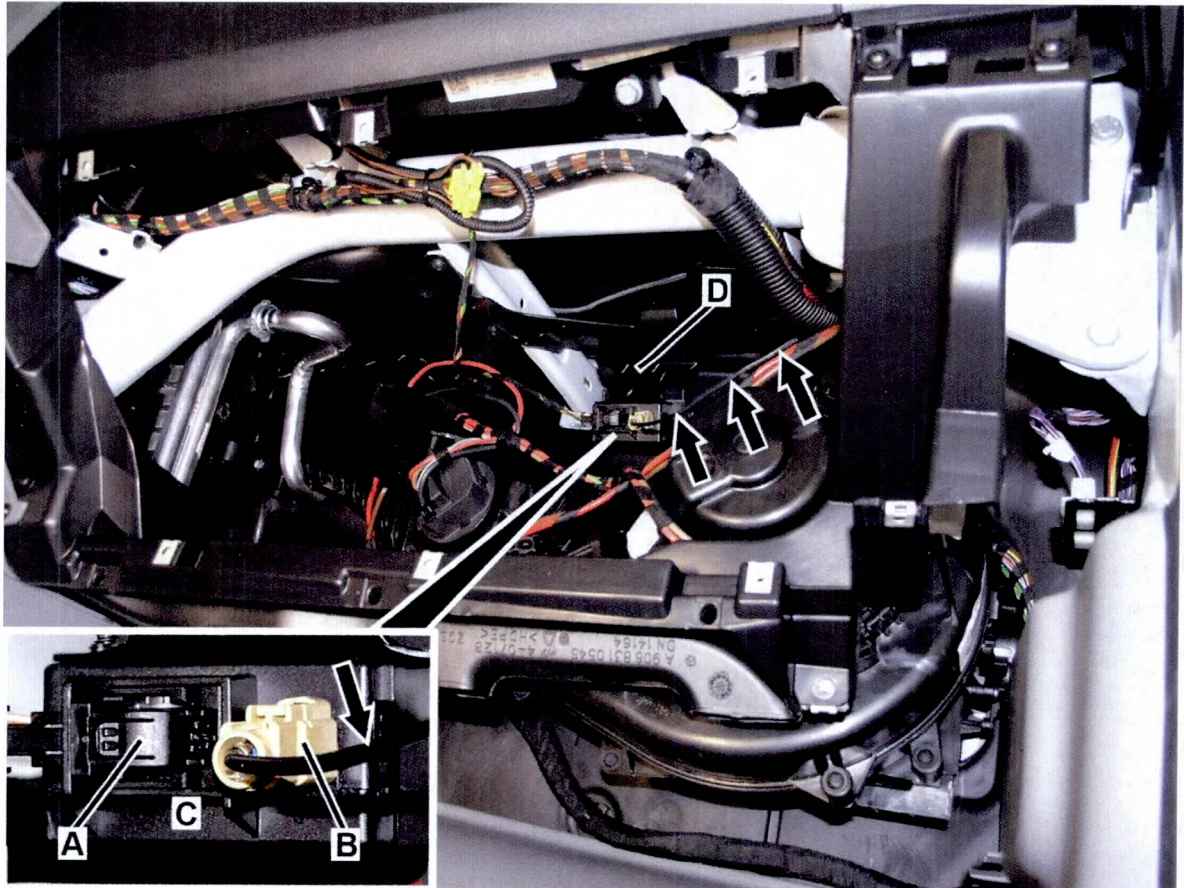

Figure 1
2. Disconnect electrical connectors (A, B, Figure 1) from stationary heater radio signal receiver (C).
3. Remove screws then remove bracket (D, Figure 1) for stationary heater radio signal receiver (C) from vehicle.
4. Remove screws then remove stationary heater radio signal receiver (C, Figure 1) from bracket (D).
6. Install **new** stationary heater radio signal receiver (B) to bracket (D, Figure 1) then reinstall bracket (D, Figure 1) in reverse order.